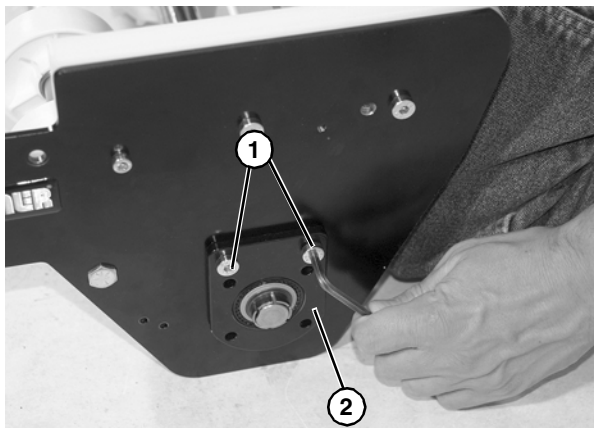

Figure 57
9. Remove two socket head screws (Figure 57, item 1) and remove plate (Figure 57, item 2).